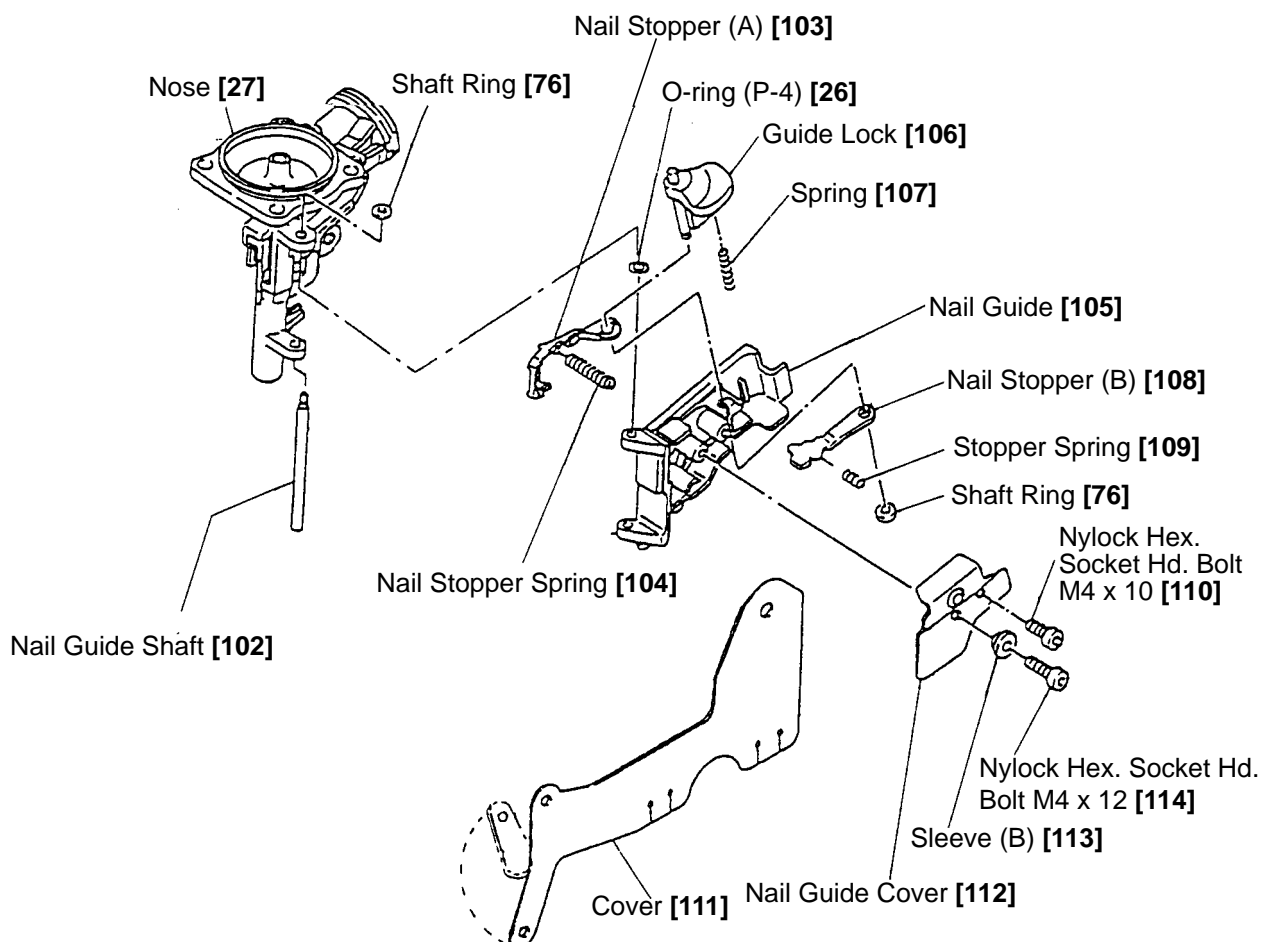

Fig. 31 Disassembly and reassembly of nail guide, nail stopper (A), nail stopper (B) and other parts
(4) Disassembly and reassembly of Nail Guide [105], Nail Stopper (A) [103], Nail Stopper (B) [108] and other parts (Fig. 31)